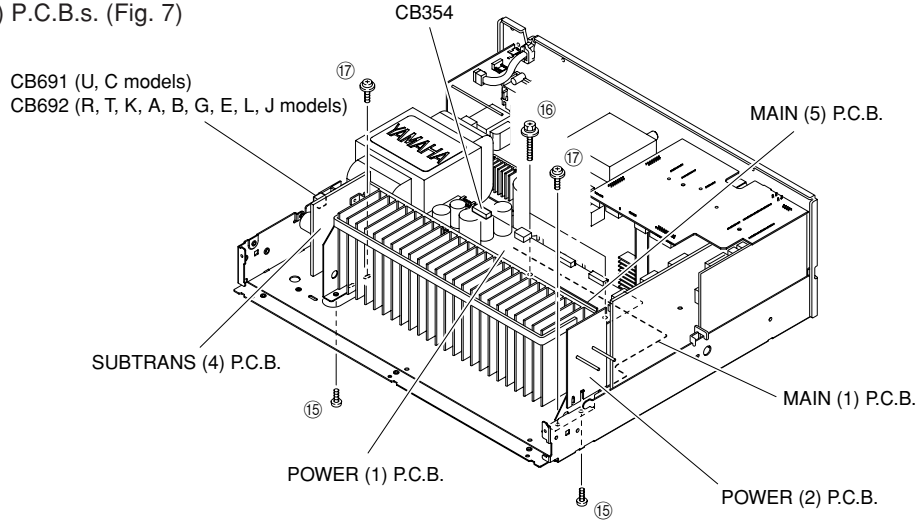

Fig. 7
7. Removal of MAIN (1), (5), POWER (1), (2) and SUBTRANS (4) P.C.B.s
- a. Remove connector CB354 CB691 (U, C models)/ CB692 (R, T, K, A, B, G, E, L, J models). (Fig. 7)
- b. Remove 2 screws (15). (Fig. 7)
- * Arrow marks (→) are printed to identify the screws (15) to be removed.
- c. Remove 2 screws (16) and 2 screws (17). (Fig. 7)
- d. Remove the MAIN (1), (5), POWER (1), (2) and SUBTRANS (4) P.C.B.s. (Fig. 7)
7. MAIN(1)、(5)、POWER(1)、(2)、SUBTRANS(4) P.C.B.の外し方
- a. CB354、CB692を外します。(Fig. 7)
- b. 15のネジ2本を外します。(Fig. 7)